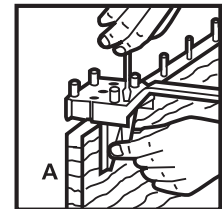

Figure 8
8. Place the jig and angle piece assembly over any one of the dowels in the edge of board A. Slide in the angle piece against the board and tighten the screws. Ensure the slot in the angle piece is aligned with the hole you have made. See Figure 8.